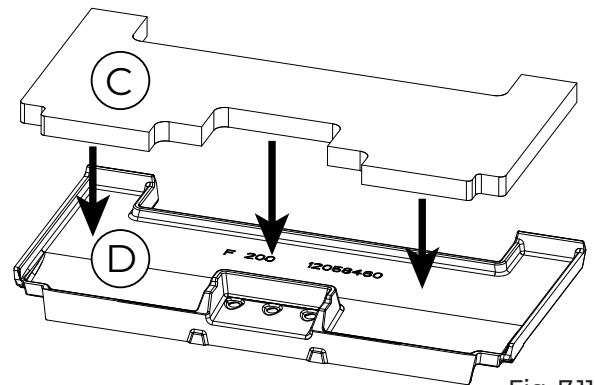

Fig. 7.11
6	Insert the insulation panel (C) on the new back plate (D) (Fig 7.11)